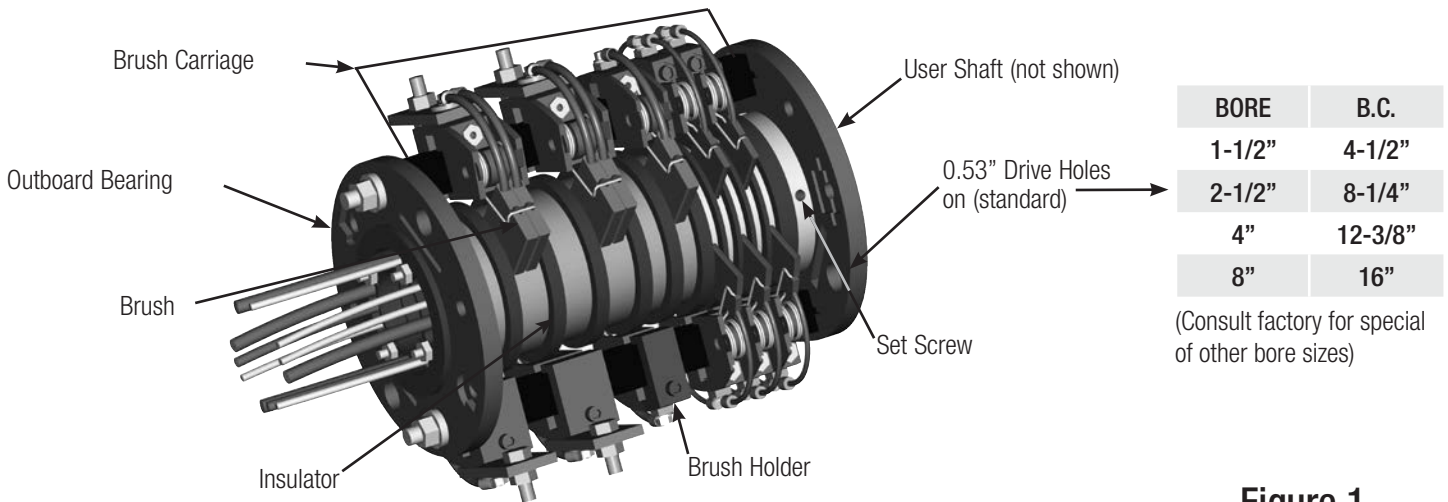

Figure 1
2.3.1.2 Unenclosed slip ring assemblies are made up of two basic components, the brush carriage and the core. The brush carriage is made up of the brush posts, brushes, brush holders, and outboard bearings. The core is made up of the rings, insulators, drive collar, ball or friction type bearings, and leads extending from the end on the outside of the through bore. (See Figure 1)